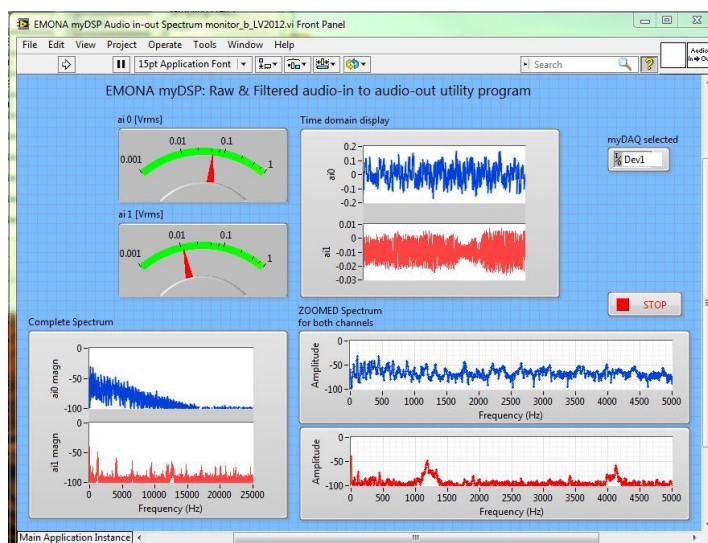

Figure 11: Audio in-out Spectrum Analyzer
2. Open the Audio in-out Spectrum Analyzer as shown in Figure 11.